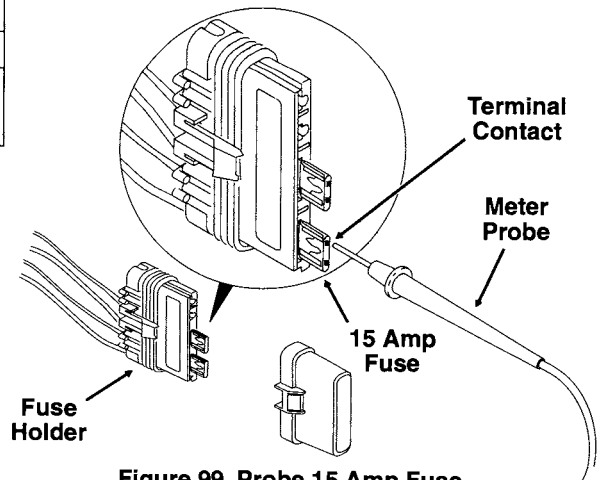

Figure 99. Probe 15 Amp Fuse
- ④ Use Harness Connector Test Kit (HD-41404), black socket probe and patch cord.
- ⑤ Connect Breakout Box (HD-41198) to rear EFI wire harness **only** (leave ECM disconnected). See Breakout Box Installation, page 132.
- ⑥ Touch meter probe to contact at top of fuse. See Figure 99. If no power through the fuse, then fuse is blown. Probe the contact on the outboard side - if no power to the fuse, then look for a broken or damaged wire.
- ⑦ See Electronic Control Module (ECM), Removal/Installation, page 9-81 of the 1996 FLT Service Manual.